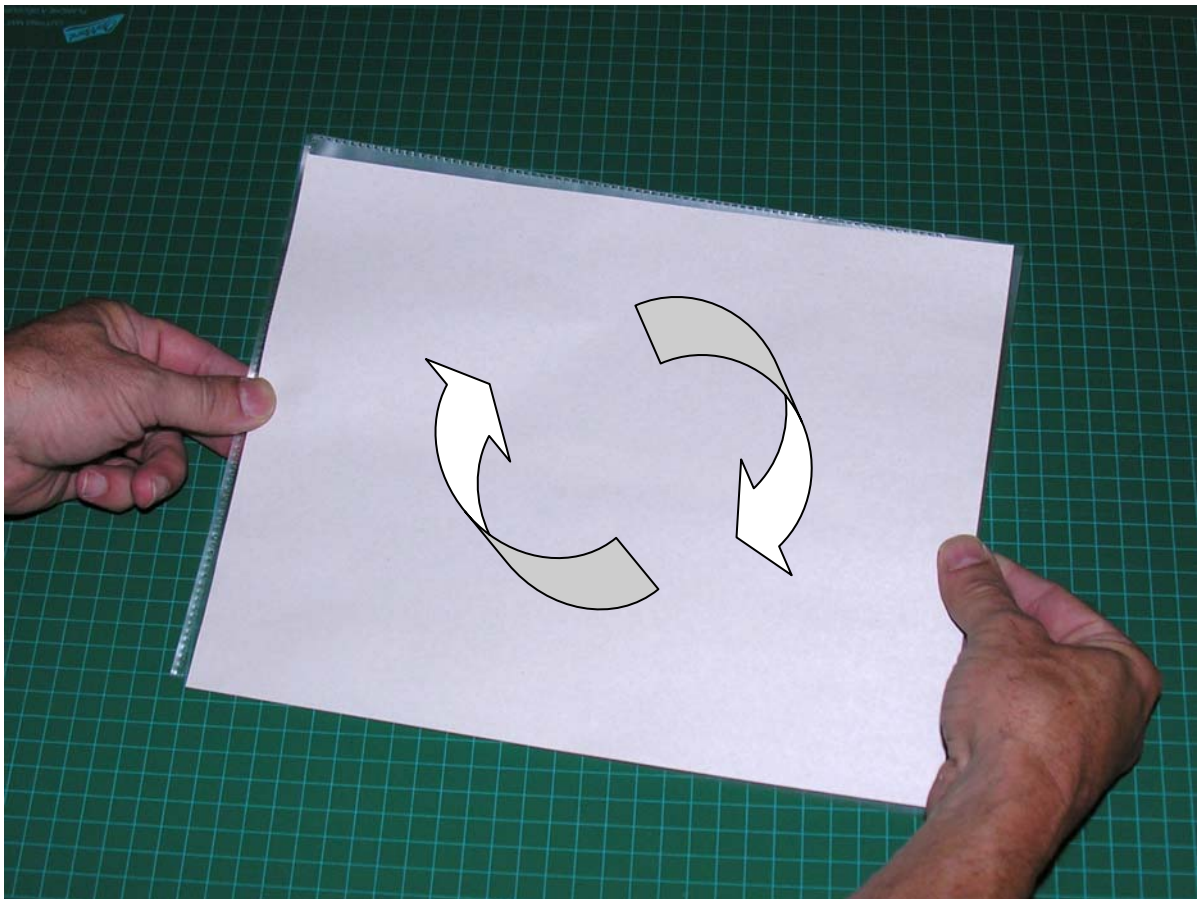

Figure 2
2. Once complete, turn the sheet 180° in the horizontal plane and pass it through again (see figure 2).